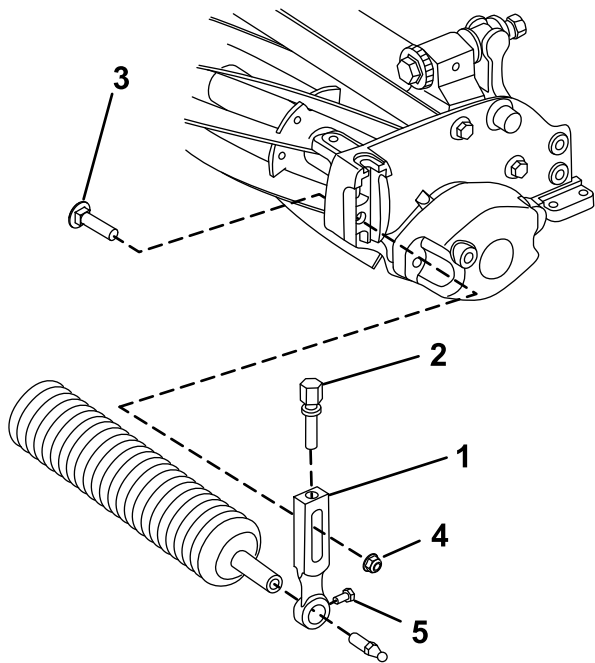

Figure 3
1. Remove the plow bolt, washer, and flange nut securing one of the height-of-cut arms to the cutting unit side plate (Figure 3).
2. Loosen the roller-mounting screws in the height-of-cut arms (Figure 3).
3. Slide the roller shaft into the height-of-cut arm on the opposite end of the cutting unit (Figure 3).
4. Slide the height-of-cut arm onto the roller shaft (Figure 3).
5. Loosely secure the roller to the cutting unit with the height-of-cut arm and fasteners previously removed (Figure 3).
7. Tighten the roller-mounting screws (Figure 3).